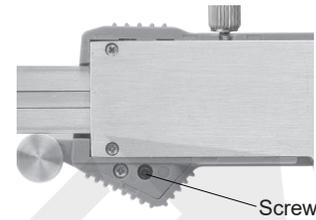

fig.1
- Loosen screw and remove the battery cover (fig.1)